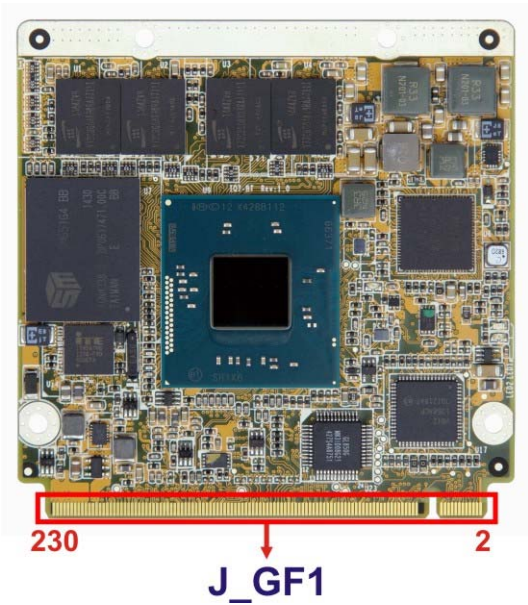

Figure 3-1: Qseven Connector Location
- CN Location: See **Figure 3-1**